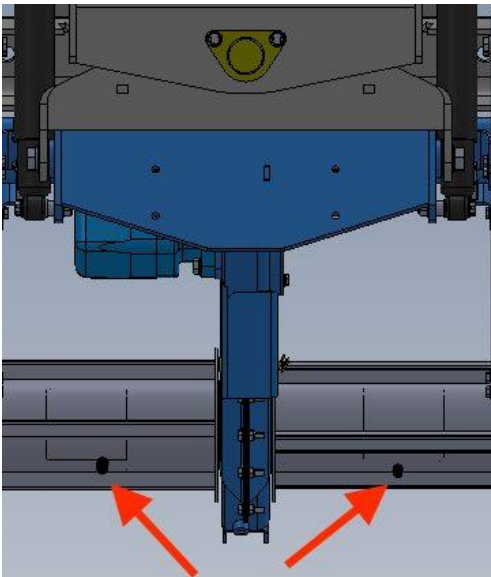

Figure 14
5. Unscrew the holding screw of the brush roller by approximately 2 cm (Figure 14) and extract the brush roller from the shaft.